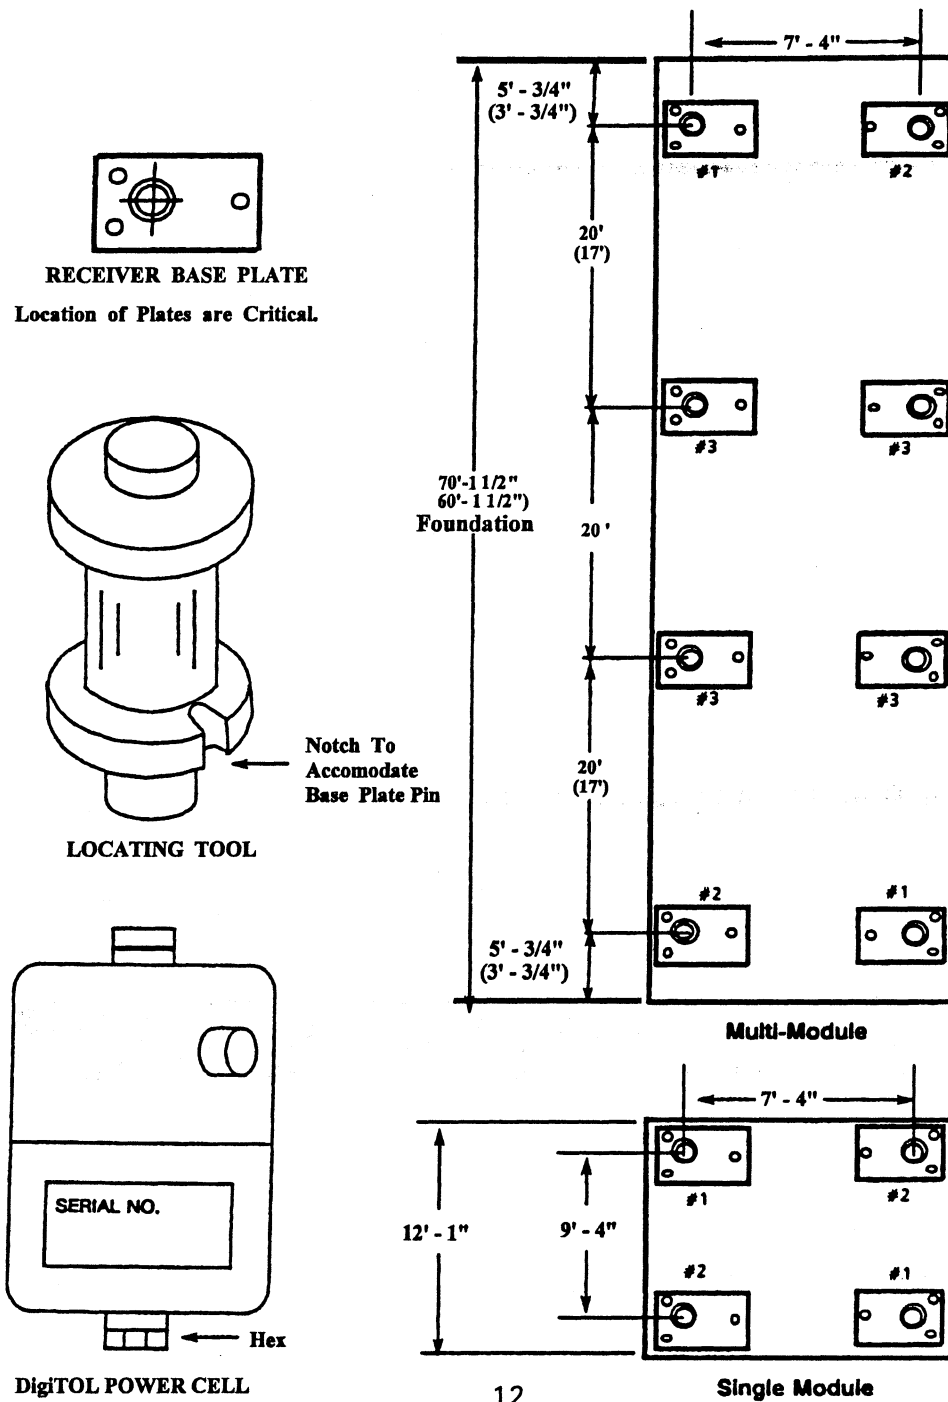

Figure 5.1 Base Plate Location
- 5.1.2 Position base plates in approximate location on the foundation. (Refer to Figure 5.1.)
- (a) Place the end module reasonably square with the end wall and spaced away from end wall per assembly drawing. Use care when placing the module on the locating tools (See Figure 5.1.)